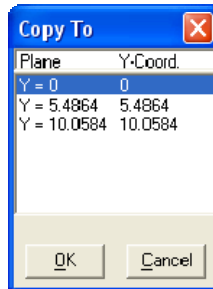

Figure 7-1 Copy To dialog box
- From the Options menu, choose Copy To. The dialog box of Figure 7-1 appears.